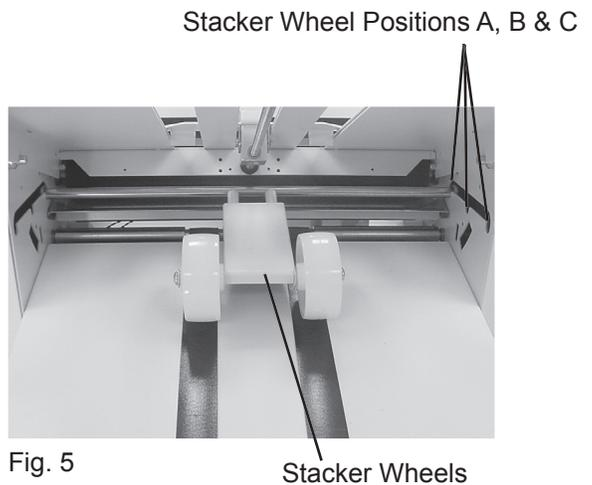

Fig. 5
4. Move the stacker wheels to the proper position for the paper size (Fig 5) ( Refer to chart on page 6).